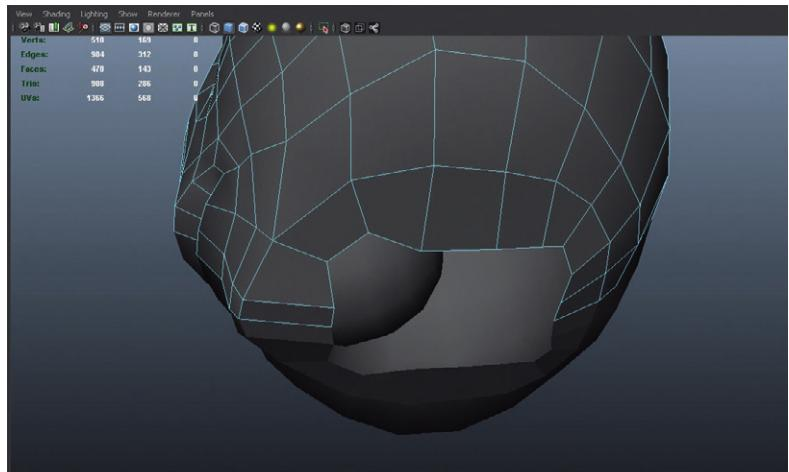

FIG. 4.48 Deleted faces providing a good ring of edges to extrude the neck out of.
Step 66: Delete the faces on the bottom of the head – the area where the neck will emerge (Fig. 4.48).